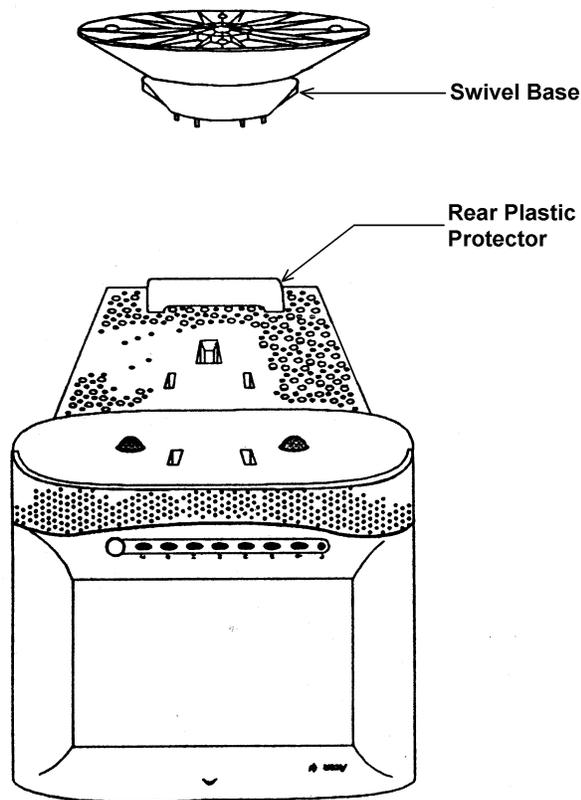

Figure 1. Monitor Bottom View
14. Remove the swivel base and the rear plastic protector from the monitor and discard. Refer to figure 1, below;